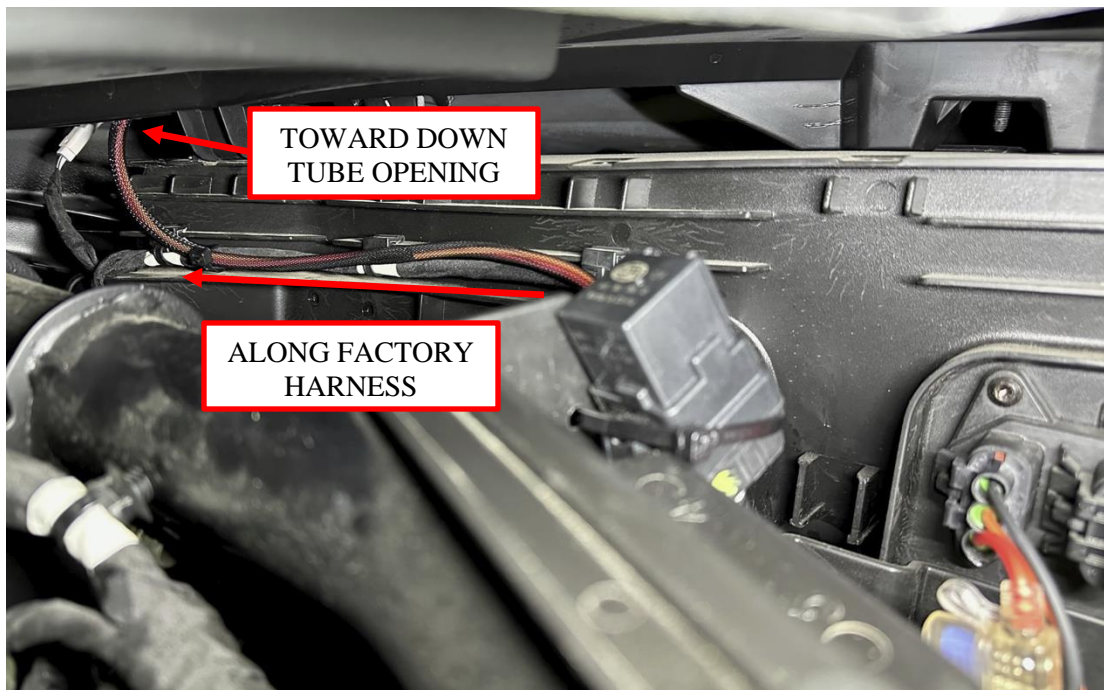
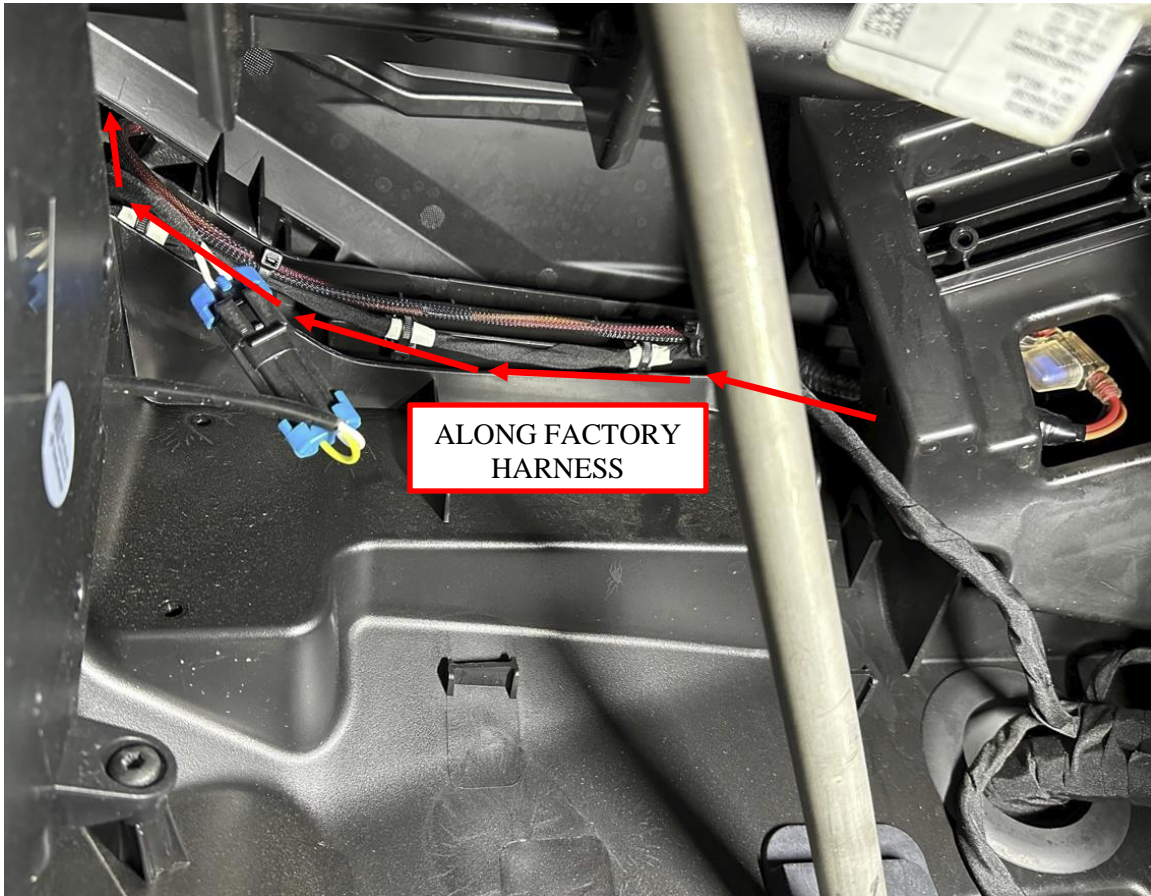

Figure 13: Chassis harness routing under dash toward front down tube opening.
Figure 14: Chassis harness routing (view from driver's foot well under steering wheel).
14. Route the mating connector under the dash, with the factory harness, toward the opening at the base of the driver's front down tube (A-pillar). See Figure 13 and Figure 14.